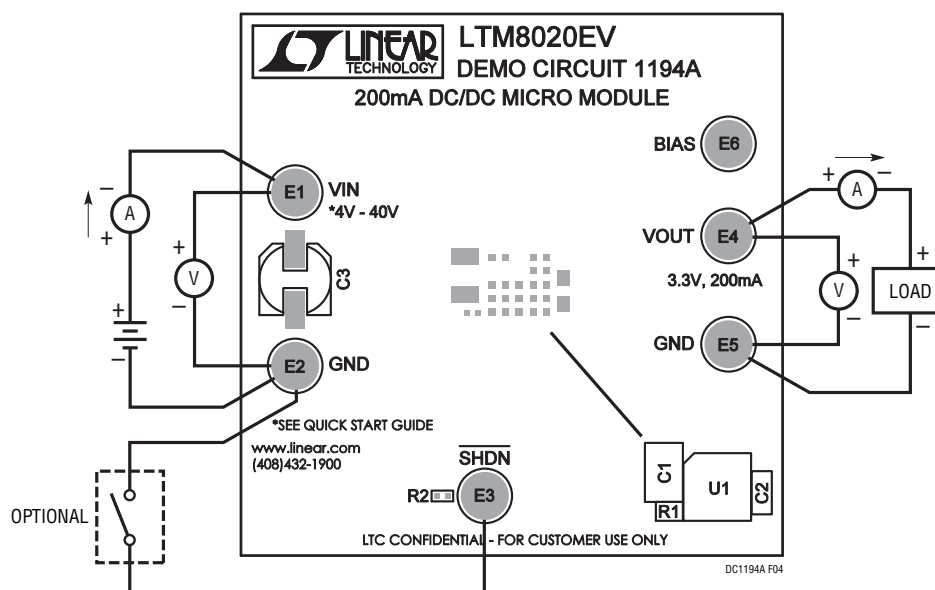

Figure 4. Proper Measurement Equipment Setup
Demonstration circuit 1194A is easy to set up to evaluate the performance of the LTM8020. Refer to Figure 4 for proper measurement equipment setup and follow the procedure below:
1. Connect the power supply (with power off), load, and meters as shown in Figure 4.